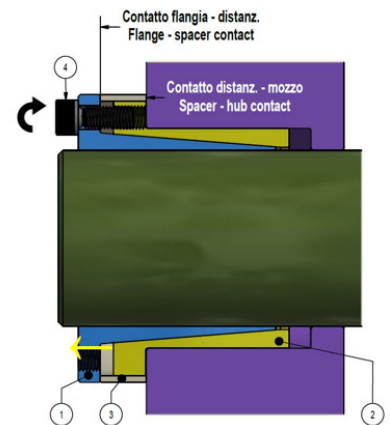
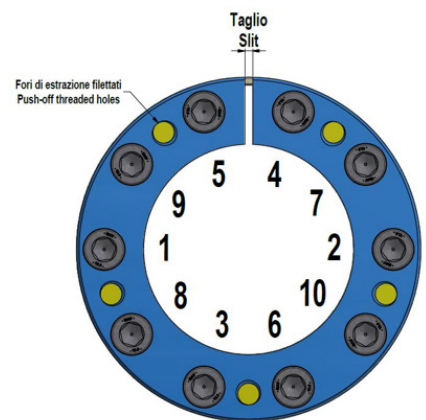

Fig. 3
Fig. 4
4. Tighten the screws by hand in a crosswise pattern, starting with a screw located at 90° approx. respect to slit (fig. 4), until the **spacer ring is in full contact with inner ring's flange and face of the hub (fig. 3)**, fitting clearances with shaft and hub bore are bridged and connected components are slightly locked, while making sure that hub is aligned as required using a dial indicator. **Better centering of hub from the beginning of installation is essential for better centering when installation is completed.** During this step, a very light axial displacement of hub respect to shaft may occur.
5. Use a torque wrench set approx. 5% higher than specified tightening torque (Ma), or reduced within admissible value. **Progressively tighten the screws in a crosswise pattern (fig. 4), using approx. ¼ turns for several passes** until ¼ turns can no longer be achieved. Start with a screw located at 90° approx. respect to slit; screws adjacent to slit shall be tightened in a row.